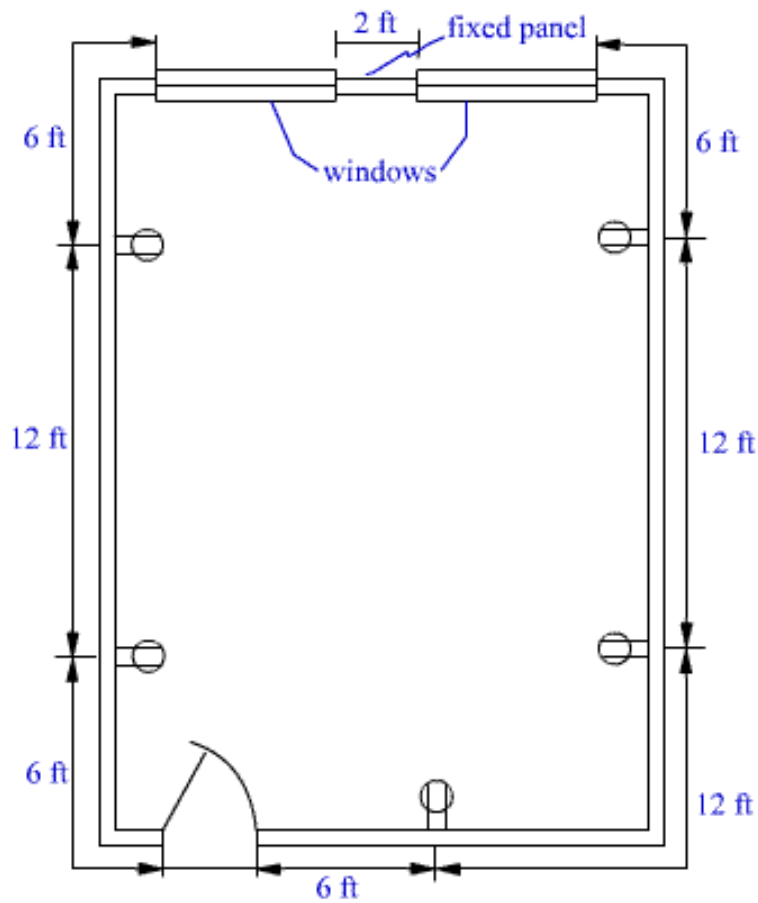

Figure 5.12. Receptacles location in a room
- The minimum number of receptacles installed in the mentioned areas will comply with the requirements given in Figure 5.12 [Article 210-52 (a)].